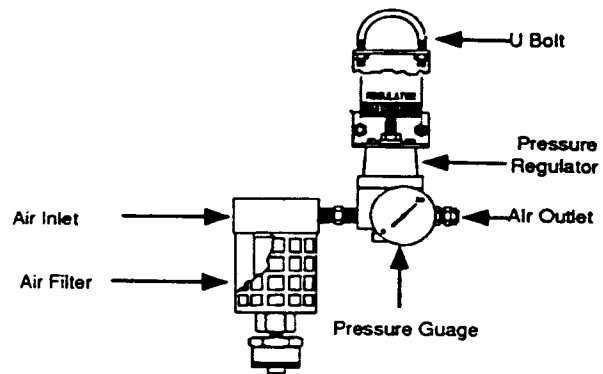

Figure 5: Installing the Air Set
- 1) Attach the air set, using the "U" bolt mounting. The pressure gauge should face away from the VTA-120 Viscometer. See Figure 5 (ref. drawing #CE4-006).